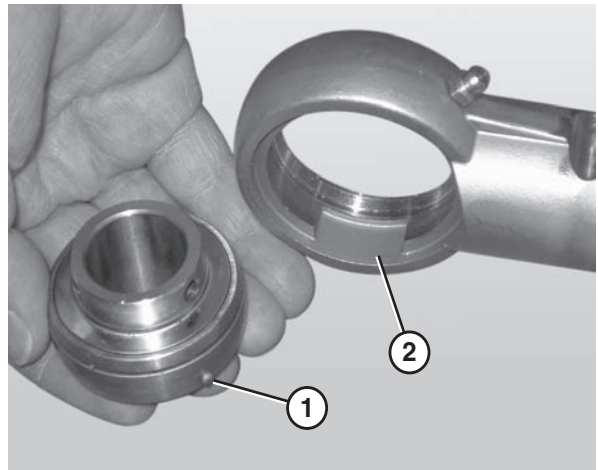

Figure 75
4. Remove the worn or damaged bearing (**Figure 75**).
5. Replace the bearing. Reference (**Figure 75**).
When inserting the new bearing, make sure the anti-rotation notch (**Figure 75, item 1**) on the bearing lines up with the groove inside the housing (**Figure 75, item 2**).